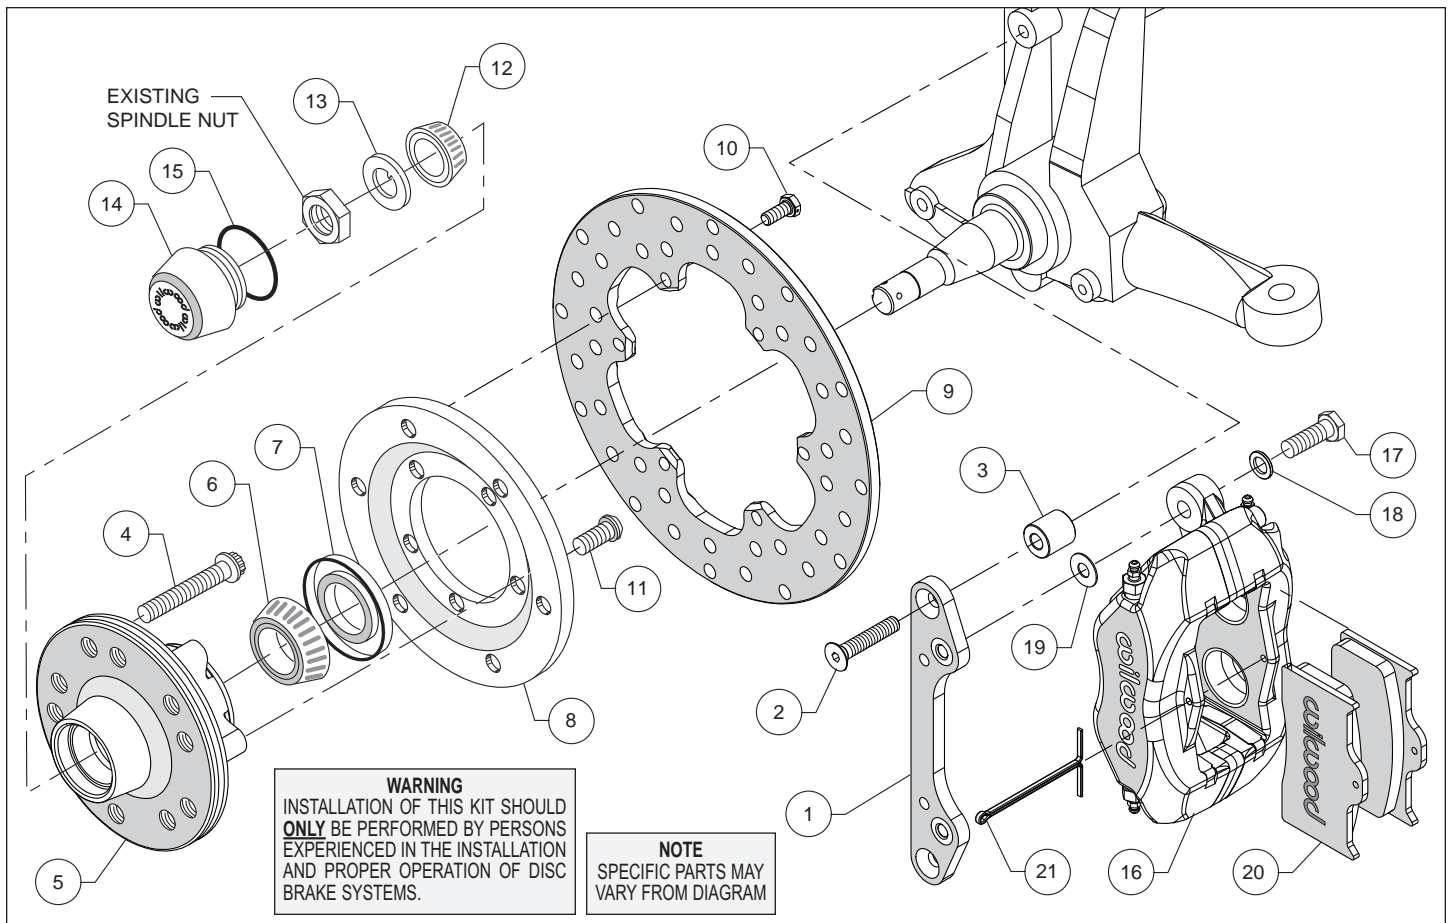
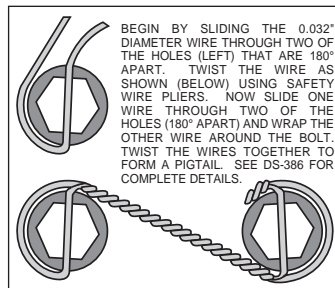
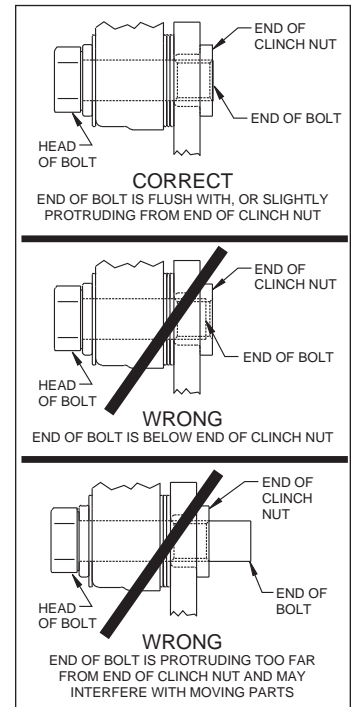

Figure 2. Typical Installation Configuration
Figure 4. Safety Wire Diagram
Figure 5. Clinch Nut Engagement Diagram
**Assembly Instructions** (numbers in parenthesis refer to the parts list, on the preceding page and Figure 2): **CAUTION:** All mounting bolts must fully engage clinch nuts. Be sure to check that all bolts are either flush or protruding through flanged side of clinch nut after shimming, Figure 5.
- Orient the caliper mounting bracket (1) as shown in Figure 2 and Photo 1. Attach using bolts (2) and spacers (3), Figure 2. Temporarily tighten the mounting bolts. Ensure that the flanged heads of the clinch nuts in the bracket are facing outboard, Photo 1. **NOTE:** The bracket must fit squarely against the mounting points on the spindle. Inspect for interference from casting irregularities, machining ridges, burrs, etc. Remove bolts one at a time, apply red *Loctite*® 271 to threads and torque to 30 ft-lbs.
- Install the grease seal (7) by pressing into the backside of the hub (5), flush with the end of the hub, Photo 3.
- Orient the rotor (9) and the rotor adapter (8) as shown in Figure 2 and Photo 4. Attach the rotor to the adapter using bolts (10). Using an alternating sequence, apply red *Loctite*® 271 to the threads, and torque to 25 ft-lbs. Safety wire bolts using standard 0.032 inch diameter stainless steel safety wire as shown in Figure 4. Refer to Wilwood's data sheet DS-386 (available at [www.wilwood.com/Pdf/DataSheets/ds386.pdf](http://www.wilwood.com/Pdf/DataSheets/ds386.pdf)) for complete safety wire installation instructions.
- Mount the adapter/rotor assembly (8 and 9) to the hub (5) using bolts (11), as shown in Figure 2 and Photo 5. Using an alternating sequence, apply red *Loctite*® 271 to the threads, and torque to 45 ft-lb.
- Pack the small outer bearing cone (12) with high temperature disc brake bearing grease and install into hub (5). Slide the hub/rotor assembly onto the spindle. Secure using spindle washer (13) and OEM spindle nut, Photo 6. Adjust bearings per OEM specifications. Install saved OEM nut lock (if any) and a new cotter pin (not included).
as shown in Figure 2. Initially place one .035" thick shim (19) on each bolt between the caliper and the bracket, Photo 8. Temporarily tighten the mounting bolts and view the rotor (9) through the top opening of the caliper. The rotor should be centered in the caliper, Photo 9. If not, adjust by adding or subtracting shims (19) between the bracket and the caliper. Always use the same amount of shims on each of the two mounting bolts. **NOTE:** The end of each bolt must be flush with or slightly protruding from the head of the clinch nut, as shown in Figure 5. If necessary place spare shims (19) between washer (18) and caliper mounting ear to achieve the proper clinch nut engagement. Once the caliper alignment and clinch nut engagement are correct, remove the bolts one at a time, apply red *Loctite*® 271 to bolt threads, and torque to 40 ft-lb. For an added measure of security, the bolts may be safety wired using standard 0.032 inch diameter stainless steel safety wire as shown in Figure 4. Refer to Wilwood's data sheet DS-386 (available at [www.wilwood.com/Pdf/DataSheets/ds386.pdf](http://www.wilwood.com/Pdf/DataSheets/ds386.pdf)) for complete safety wire installation instructions.